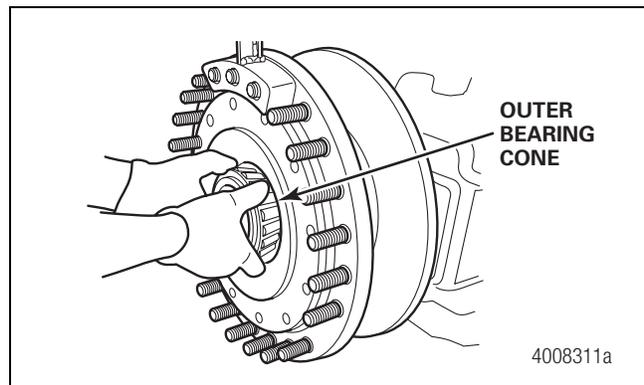

Figure 3.9
6. Remove the outer bearing cone from the spindle. Figure 3.9.